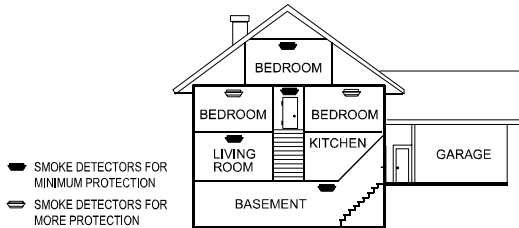

**Figure 5. Locations for Placing Smoke Detectors in a Single Residence with only One Sleeping Area**
- Install a smoke detector in the hallway outside every separate bedroom area, as in Figure 5. Two detectors are required in homes with two bedroom areas, as in Figure 6.